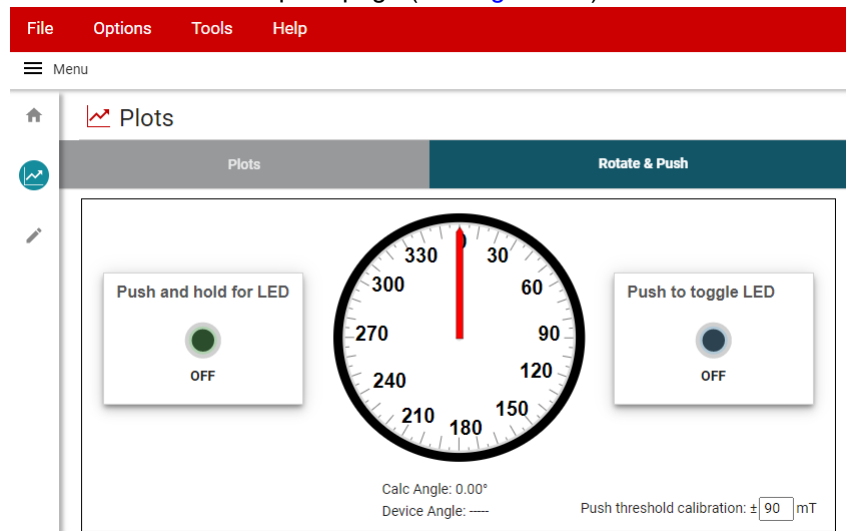

Figure 3-9. Rotate & Push GUI Page
4. Go to the *Rotate & Push* tab inside the plots page (see Figure 3-9).